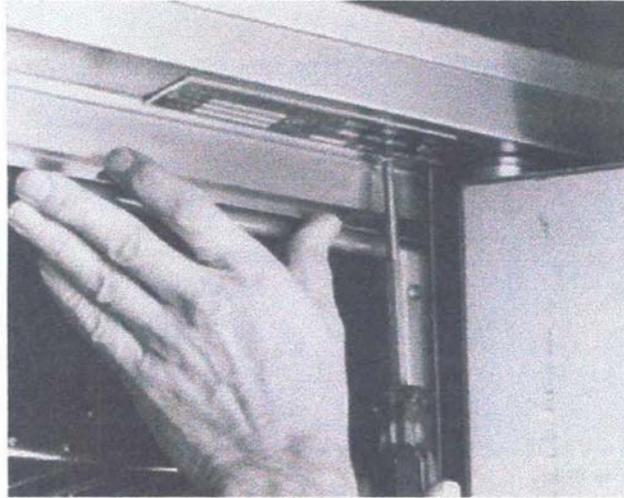

Figure 6-3. Perimeter Door Gasket
1. Remove gasket screws, Figure 6-3.